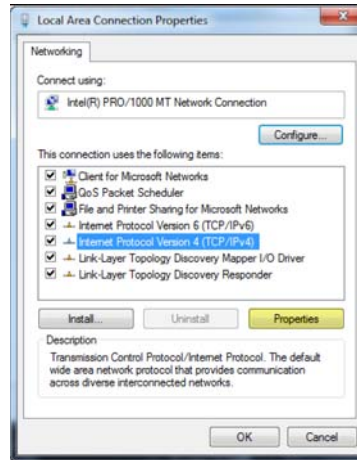

Fig. 15 Local Area Connection Properties
- ➡ 4. In the Properties- window, see Fig. 15, mark Internet protocol version 4 (TCP/IPv4) and go again to Properties.